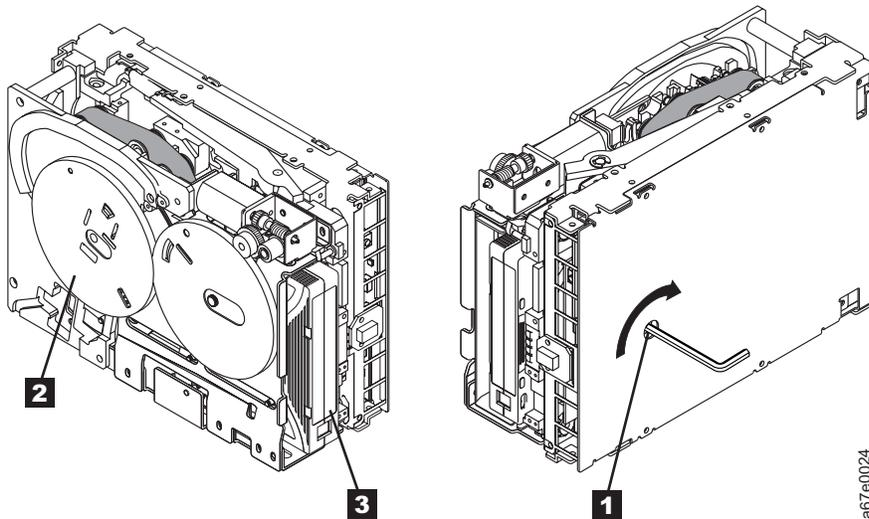

Figure 169. Rewinding Tape from Take-up Reel to Cartridge Supply Reel. Rotate the advance screw **clockwise** only.
8. Position the drive with the front facing you, then tilt the drive on its left side (see Figure 169 on page 681).
9. Locate the access hole **1** at the bottom of the drive, (see Figure 169 on page 681) and the advance screw within the hole. The advance screw is attached to the supply reel motor.
11. Locate the loader motor gear **1** (see Figure 170). While applying just enough clockwise torque to the advance screw **1** (see Figure 169) to keep the tape tight, rotate the loader motor gear in the unload direction (see arrow **1** in Figure 170). The rotation of the loader motor gear causes the leader-pin block **2** to move from the take-up reel towards the supply reel. When the leader-pin block reaches the cartridge, it should disengage from the leader pin, then rotate away from the cartridge: